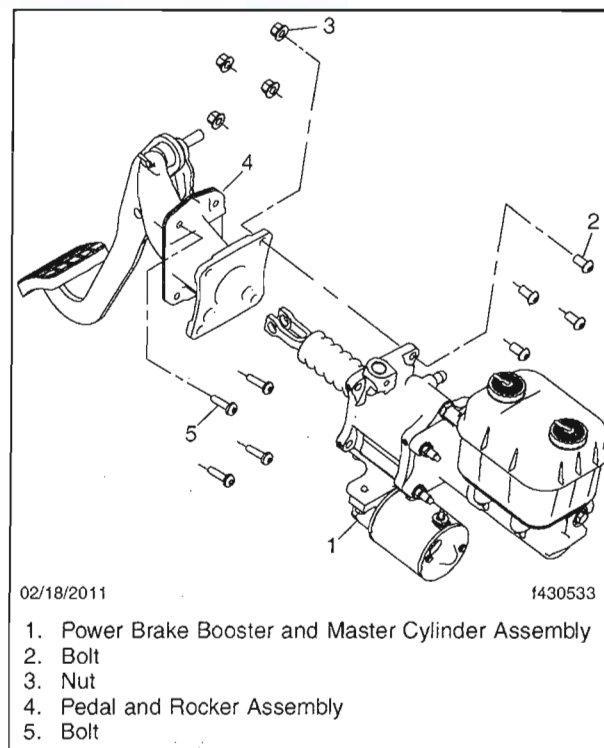

Fig. 6, Removing the Fixed Brake Pedal
1. Remove the cotter pin from the brake clevis and remove the clevis pin from the brake pedal. See **Fig. 6**.